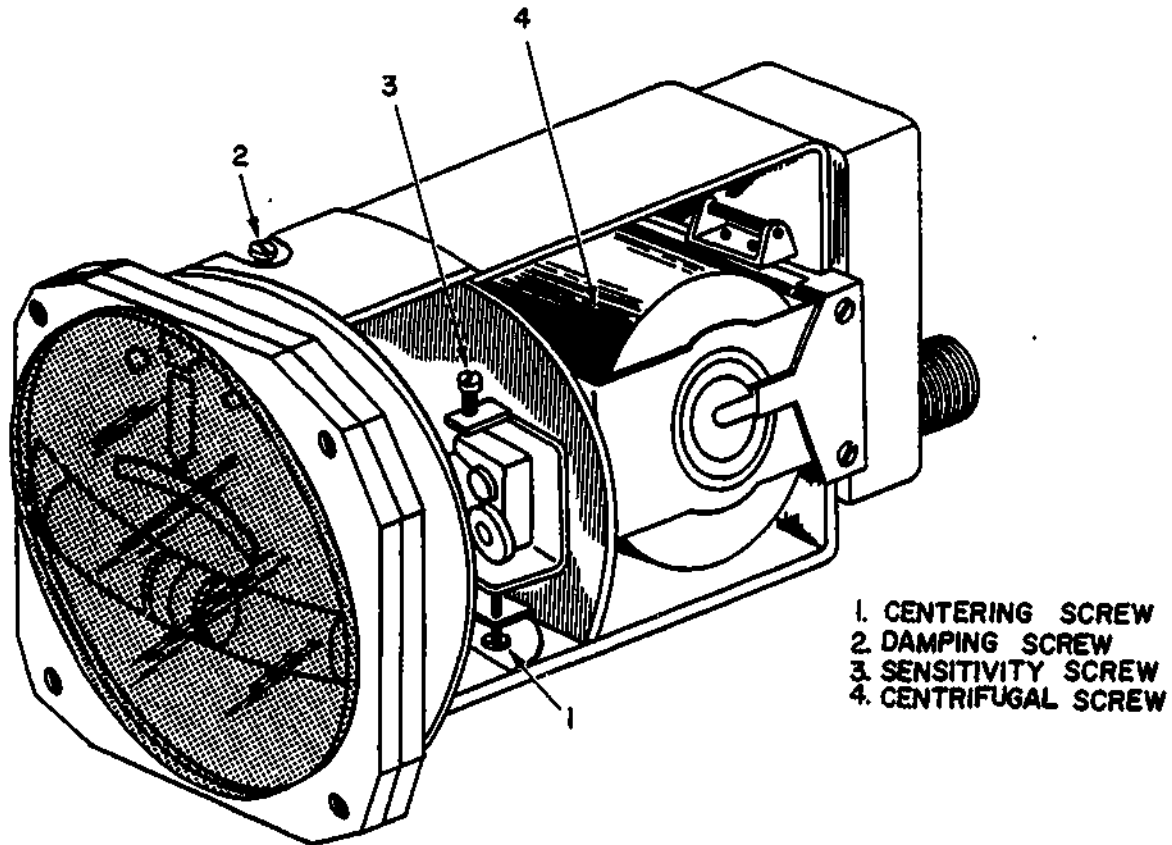

Figure 1. Location of Adjustment Screws.
(1) If you found that the pointer was not centered during the visual inspection, you can center it by turning the centering screw shown in figure 1.
(2) While you are turning the screw gently tap the indicator to remove any friction that may be in the mechanical linkage.
(3) After the turntable has made a couple of revolutions, turn the rate control OFF. This will cause the table to stop turning instantly.
(4) If the pointer took less than one second, or more than three seconds, or overshot the center mark when returning, the damping screw, will have to be adjusted. See figure 1 for its location.
(4) If the pointer is out of tolerance, adjust the sensitivity screw shown in figure 1.
(5) Test the indicator at the rates of turn given in table 1 below. Record the amount of deflection for each of the rates and indicate if it was satisfactory or unsatisfactory.